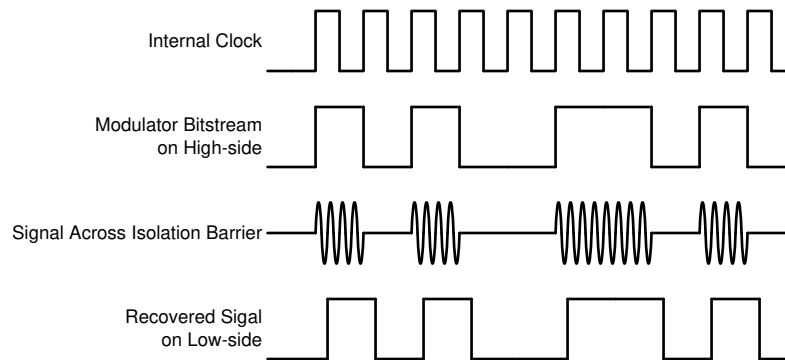

图 7-1. OOK-Based Modulation Scheme
The AMC3301-Q1 uses an on-off keying (OOK) modulation scheme, as shown in 图 7-1, to transmit the modulator output bitstream across the capacitive SiO₂-based isolation barrier. The transmit driver (TX) shown in the Functional Block Diagram transmits an internally generated, high-frequency carrier across the isolation barrier to represent a digital *one* and does not send a signal to represent a digital *zero*. The nominal frequency of the carrier used inside the AMC3301-Q1 is 480 MHz.